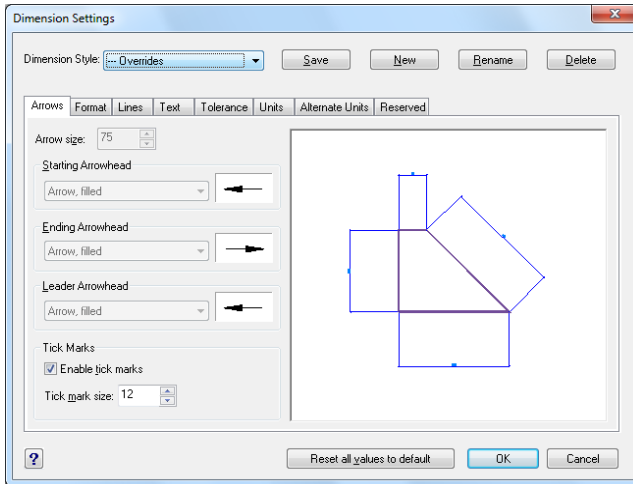

Fig. 51 – Dimensions Settings dialog box
**H — dimensions style;** double left-click on the name of the option to change; also available at the icon  **Dimension settings** (Fig. 51);